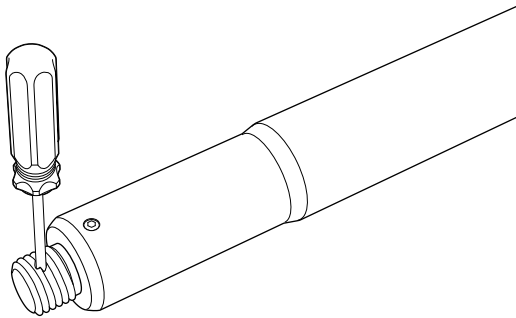

Figure 12: Inserting Screwdriver to Remove M20 Lug
- Loosen the M20 lug by rotating counter-clockwise (inserting a screwdriver through the lug can help with this process, see Figure 12) and remove it.